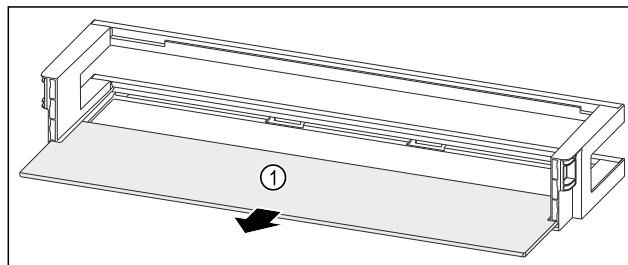

Fig. 194 Door rack with shelf
- ▶ Remove the shelf Fig. 194 (1).